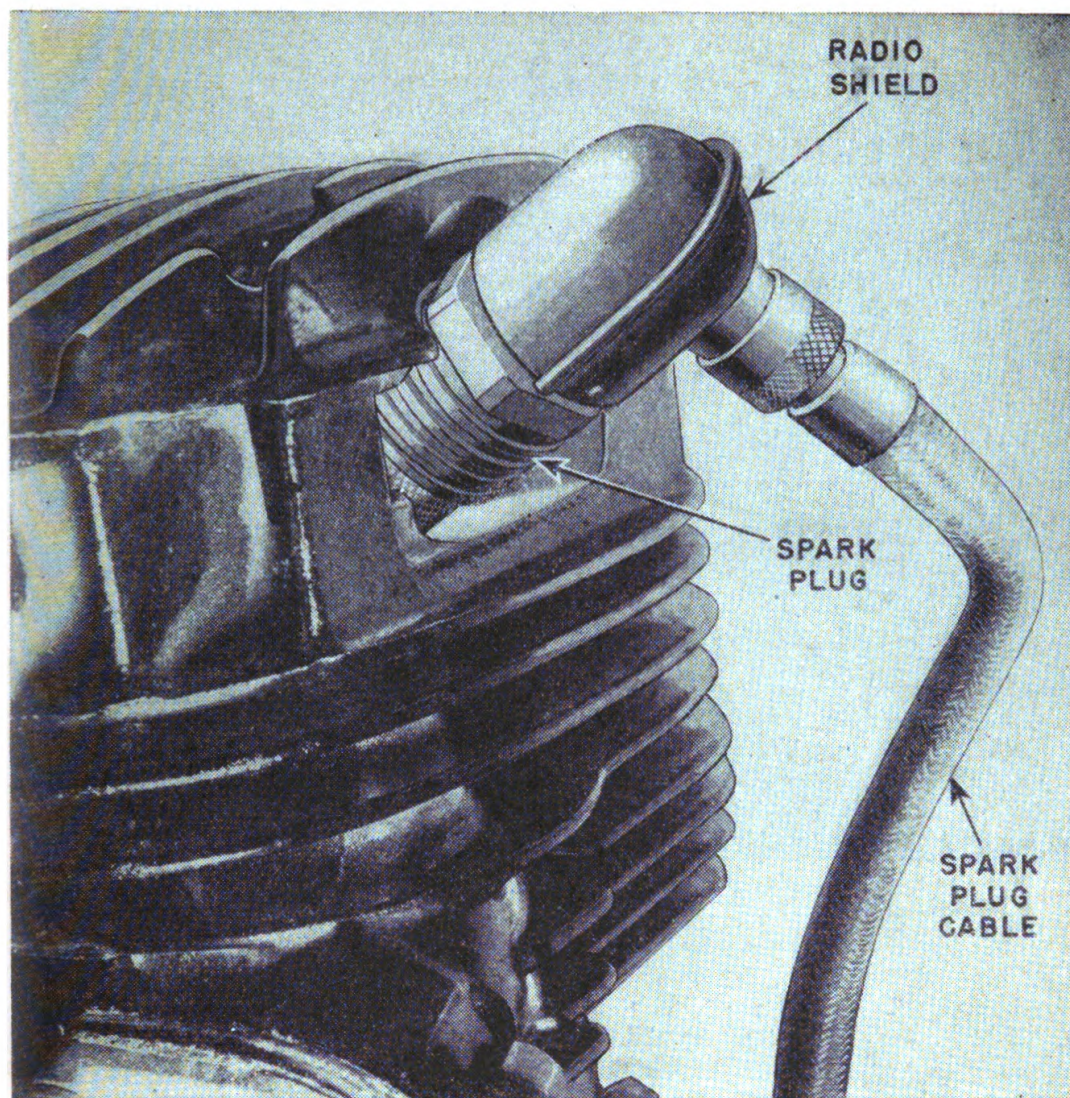
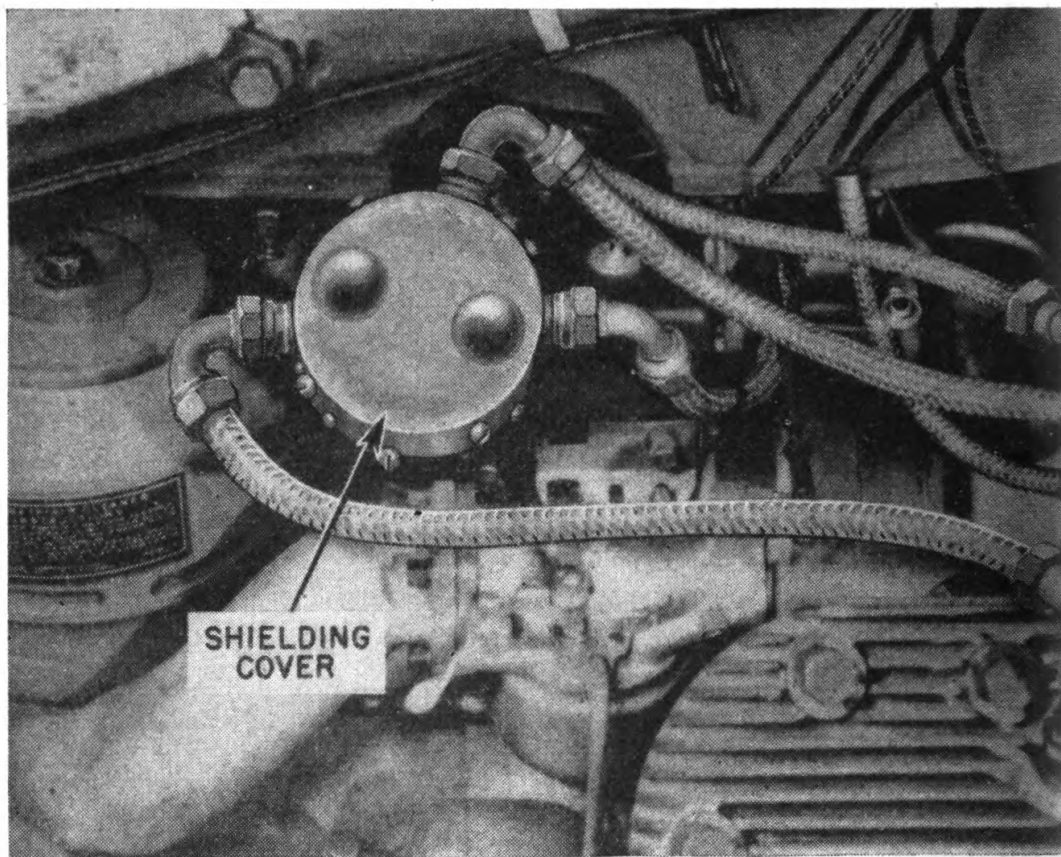

FIGURE 106.—Harley-Davidson radio shield.
FIGURE 107.—Indian radio shield.
*b.* The shaft-driven models are shielded to permit installation and use of radios. The shielding is merely an electrical insulator to protect the radio from static electricity developed in the ignition system. The Harley-Davidson uses a small cover which fits over the spark plugs as illustrated in figure 106. Figure 107 shows a shielding cover placed on top of the distributor cap on Indian motorcycles.